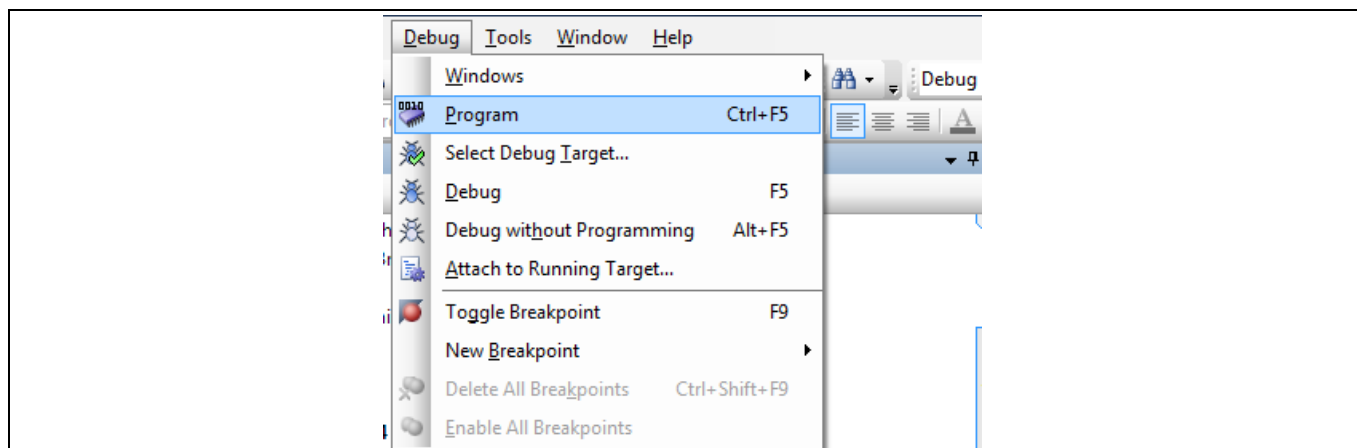

Figure 9 Programming Device from PSoC Creator
- If there are no errors during build, program the firmware into the kit by choosing **Debug > Program** or press **[Ctrl] [F5]**, as shown in **Figure 9**. This programs the target PSoC 4500S device on the PSoC 4500S Pioneer Kit, and the kit is ready to use.